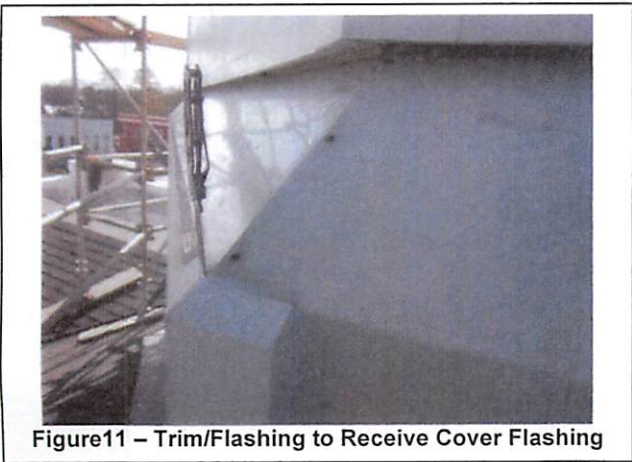

Figure 11 – Trim/Flashing to Receive Cover Flashing
- 16 - HRY will install Pre-Finished White Metal Flashing Cover over Vertical Wood Corner Trim. Top will run up under siding, sides of flashing will extend over edges approx. 1/2" and flashing will be set in beds of sealant where new rivets are installed. Approved/Compatible Sealant Primer (By Sealant Manufacturer) for the Existing Pre-Finished Metal Flashing Surfaces should be considered to ensure good bonding. **Figure 11**